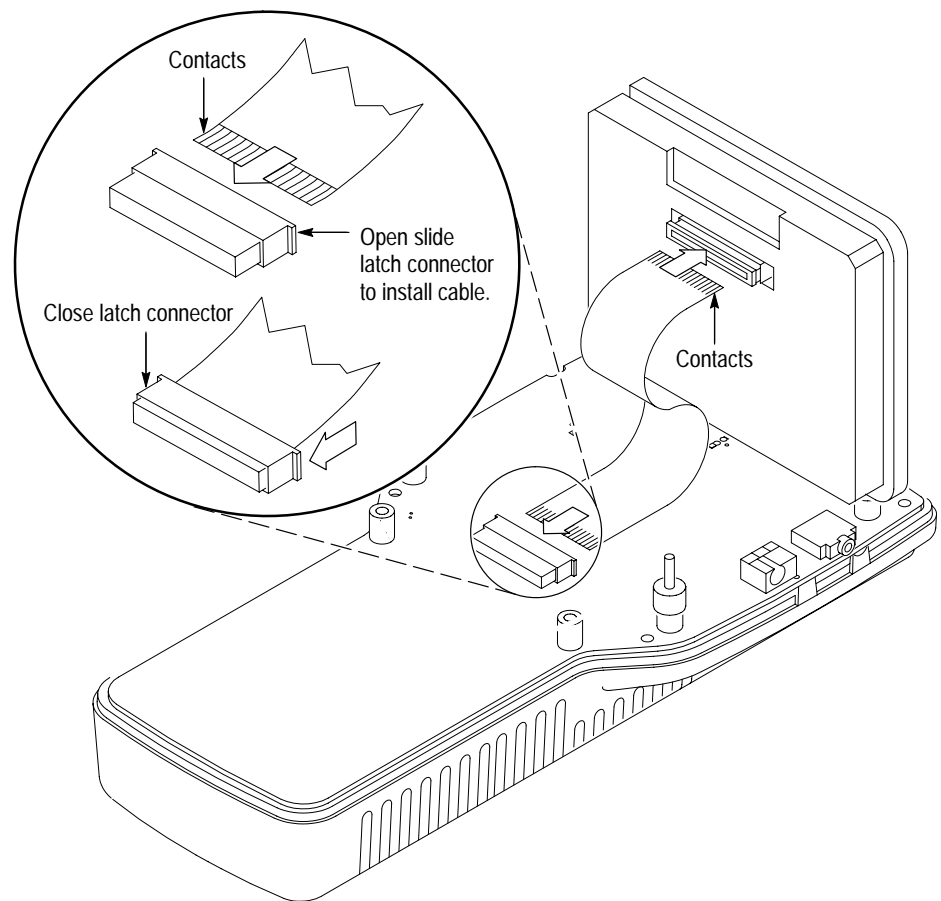

Figure 6–2: Installing the LCD display cable
**NOTE.** The cable connecting the display module to the Bottom board is a zero insertion-force ribbon cable. To remove the cable from the connector housing, pull out the connector latch, and then pull the ribbon cable out of the connector. See Figure 6–2.
**NOTE.** The cable connecting the display module to the Bottom board is a zero insertion-force ribbon cable. To install the cable into the connector, pull out the connector latch and then push the ribbon cable into the connector housing. When the cable rests against the back of the connector, press in the connector latch to lock the cable in place. See Figure 6–2.
4. Set the LCD display module onto the four locating feet. The locating feet fit into small holes in each of the four corners on the back of the LCD display. See Figure 6–3.